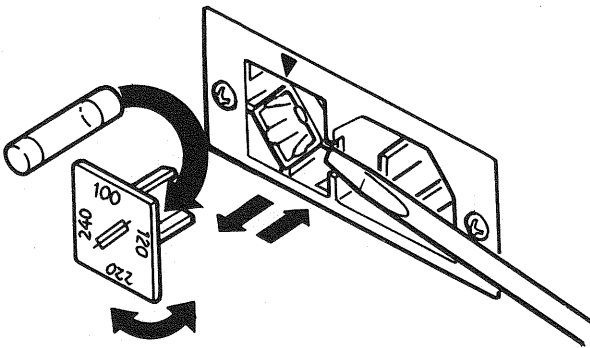

Fig. 46
2. Remove the fuse holder in the rear panel using a standard screwdriver (see Fig. 46).
Remove the fuse holder in the rear panel using a standard screwdriver. Then set the label of your line voltage to the mark ▼ and plug the fuse holder back into place. When changing the supply setting from 100/120 V to 220/240 V, change the 1 A fuse for a 0.7 A one. (see Fig. 46)